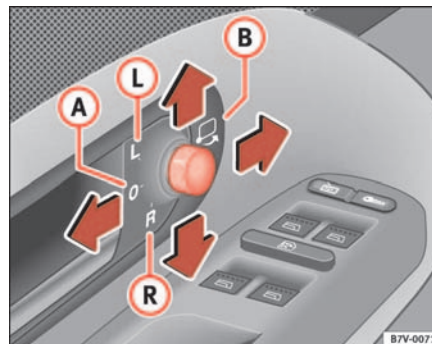

Fig. 82 Automatic anti-dazzle function for interior mirror
This function can be activated and deactivated by pressing the rearview mirror switch ⇒ page 118, fig. 82 ①. When it is activated, the warning lamp lights up ②. ■